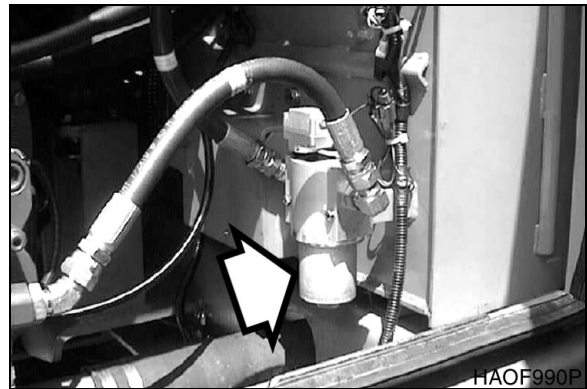

Figure 54
3. Locate pilot system filter assembly. See Figure 54.